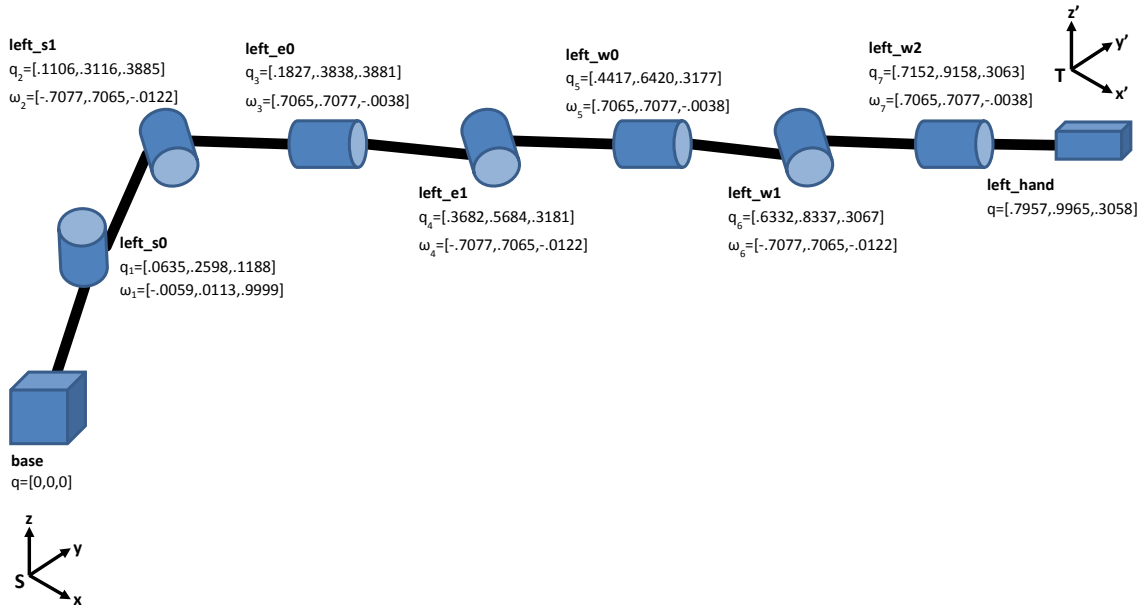

Figure 1: Baxter arm parameters.
**Task 1:** Using the code from the pre-lab and referring to the textbook if necessary, write a Python function that computes the coordinate transformation between the base and tool frames for the Baxter arm pictured below (steps 3-7 above). Your function should take an array of 7 joint angles as its only argument and return the 4x4 homogeneous transformation matrix  $g_{st}(\theta)$ . Refer to Figure 1 for the parameters of the Baxter arm. The only other parameter you should need is the rotation matrix